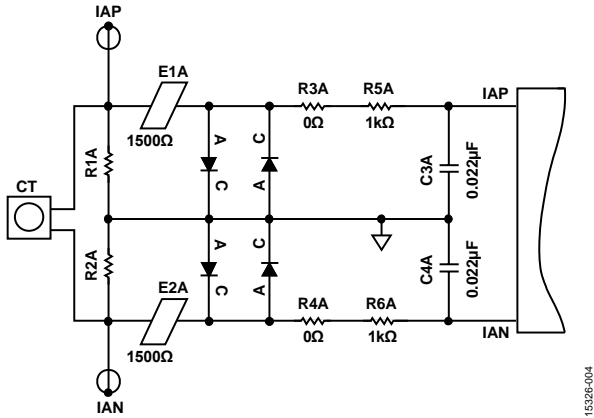

Figure 4. Example of a Current Transformer Connection
Figure 4 shows an example of a current transformer sensor configuration. When using current sense transformers, populate the R1A and R2A burden resistors according to the full-scale current and the current transformer (CT) turns ratio of the application. The CT turns ratio and the burden resistor values must be chosen such that the IAP pin to AGND pin and IAN pin to AGND pin potentials do not exceed ±0.5 V peak. The C1A and C2A capacitors are not populated when the current transformer is used. An example burden resistor calculation, where the maximum expected current at current transformer primary is 50 A rms, the CT turns ratio is 3000:1, and the secondary current at 50 A is as follows,